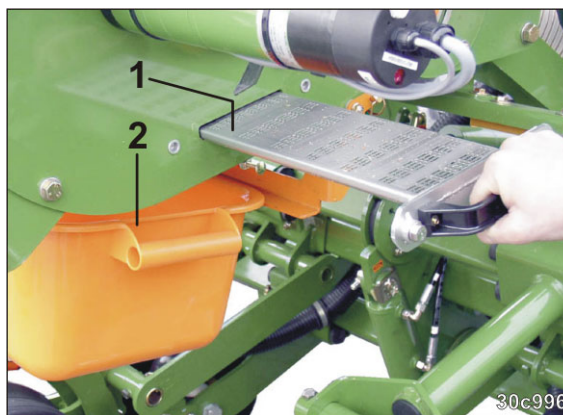

Fig. 244
6. Pull the screen shutter (Fig. 244/1) slowly out of the housing.
→ The seed will drop into the collecting trough (Fig. 244/2).